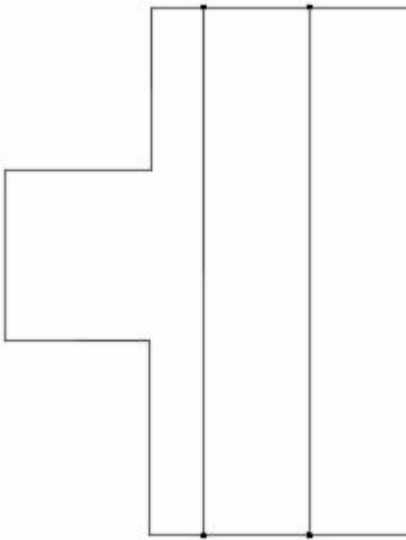

Figure-11. Wire drawn
- Drawing the wire as shown in Figure-11.